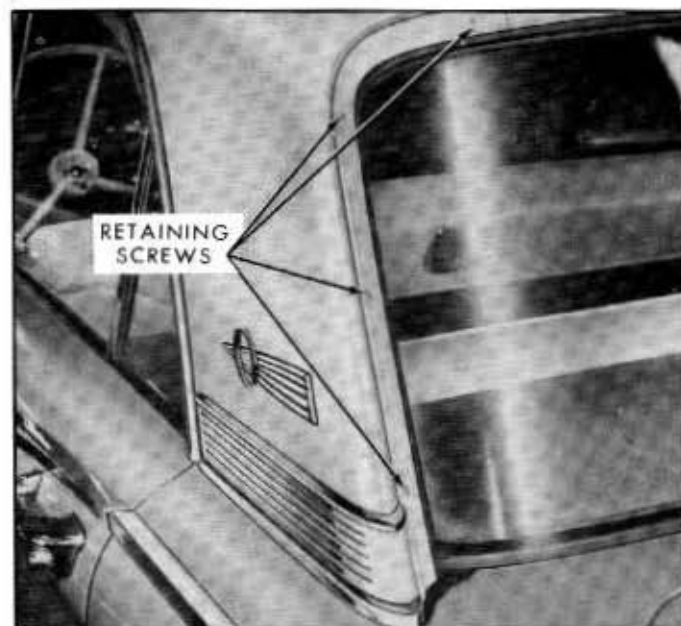

Fig. 13C-14—Back Window Outside Mouldings—(61CM-8002)
- Remove the outside moulding retaining screws and remove the mouldings. See figure 13C-14.